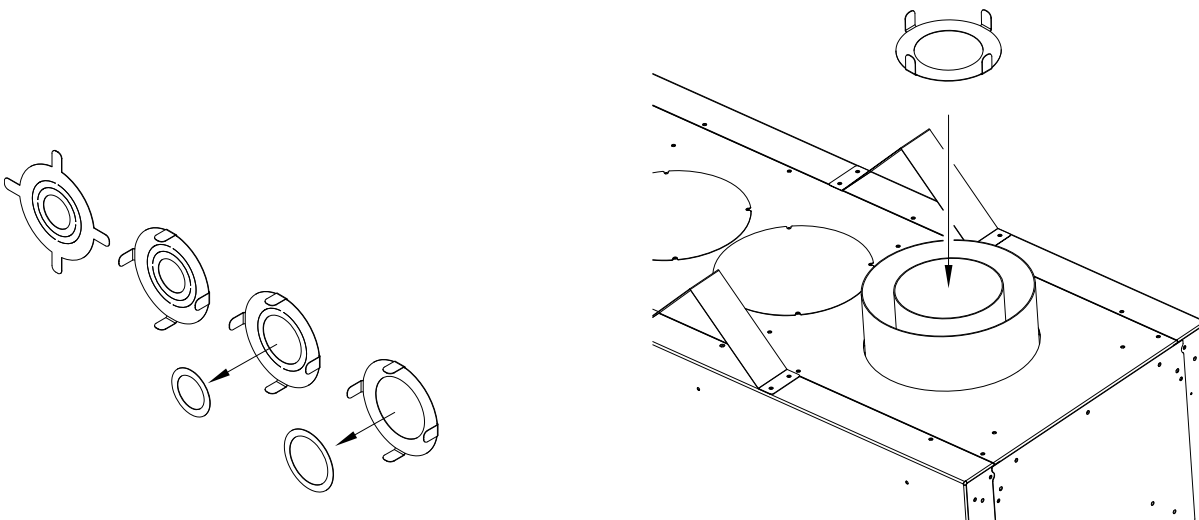

Figure 7.3 - Vent Restrictor Plate Installation
- The restrictor plate is shipped with all inner rings intact, and when installed, provides the most vent restriction. There are (2) inner rings that can be knocked out. As you knock out and remove an inner ring you have less vent restriction whereas removing both inner rings you will have the least amount of vent restriction.
- Follow Figure 7.3 for restrictor plate installation before attaching venting. For vent restriction plate recommendations and adjustments, see section 11.2.3, Vent Restriction (after installation).